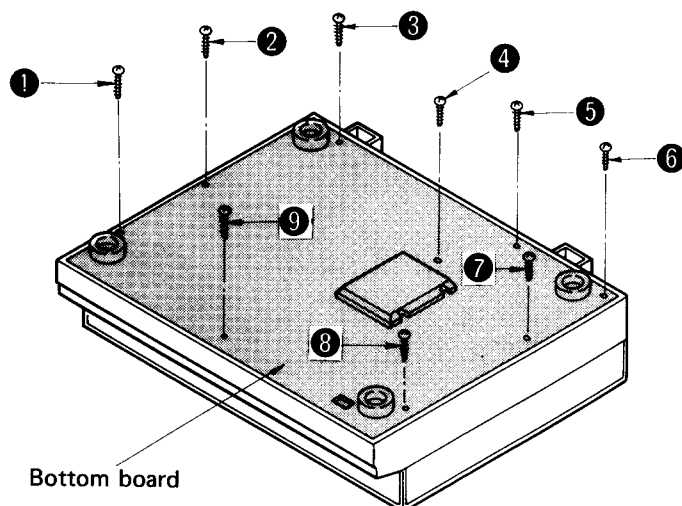

Fig. 1
4. Remove the bottom board setscrews ① ~ ⑨. Then the bottom board can be removed. (See Fig. 1)
5. Remove the setscrews ⑩ ~ ⑲ in the automatic mechanism plate and take off the start-stop rod, then the automatic mechanism plate can be detached.